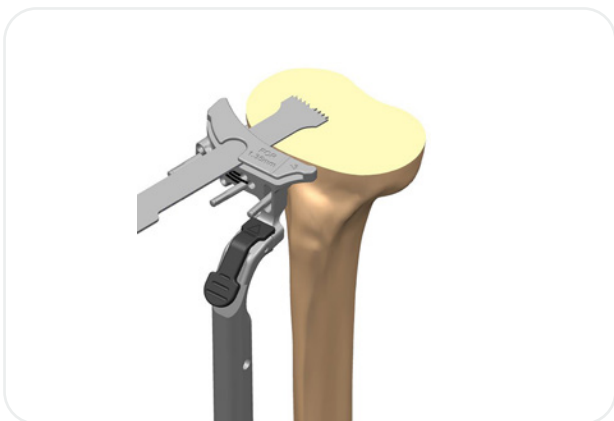

Figure 18
2. Remove the Tibia Stylus. Resect the proximal tibia (**Figure 18**) and remove the cutting guide.